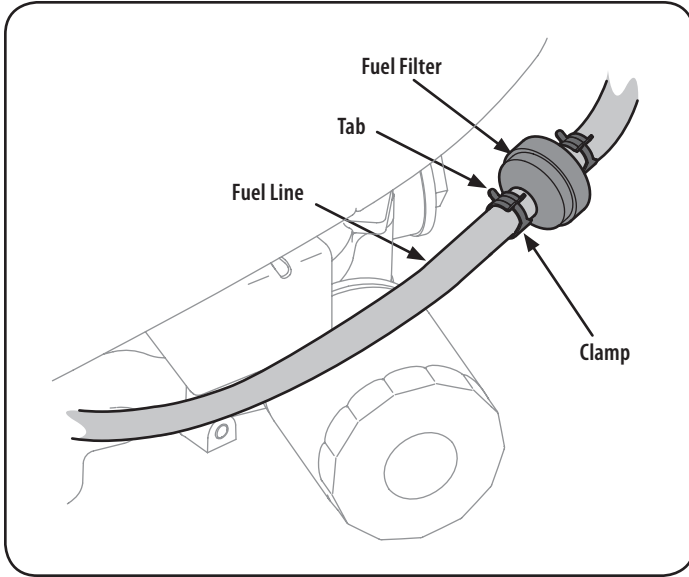

Figure 32
1. Use pliers to squeeze the tabs on the other clamp (the out-line side of the fuel filter), and slide the clamp away from the fuel filter. Twist and pull the fuel line off of the fuel filter. See Figure 32.